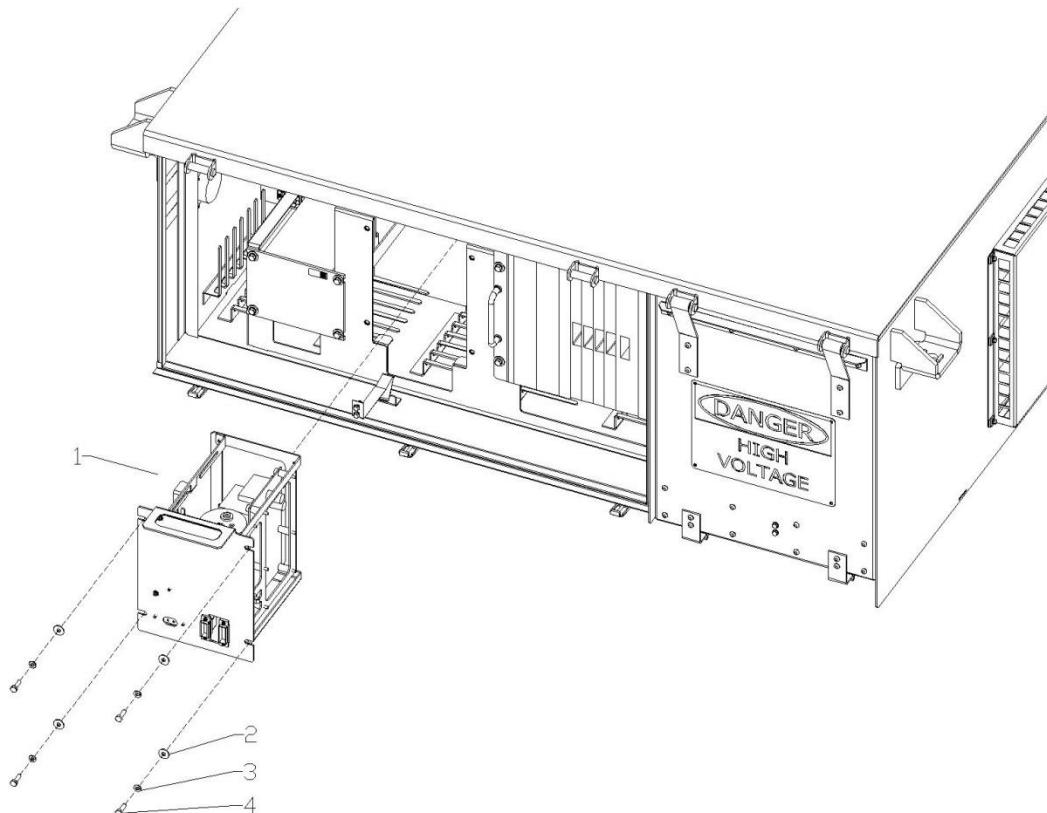

Figure 5-9: Power Supply Unit Installation
2. Remove the four M6 screws (2) by using a 10 mm socket as shown in Figure 5-9.
Reinstall the new PSU (1) and tighten the hex screws (4) to 5.8 Nm (51 in-lbs.) as shown in Figure 5-9. Use flat washers (3) and lock washers (2). Plug in the harness connectors (not shown).